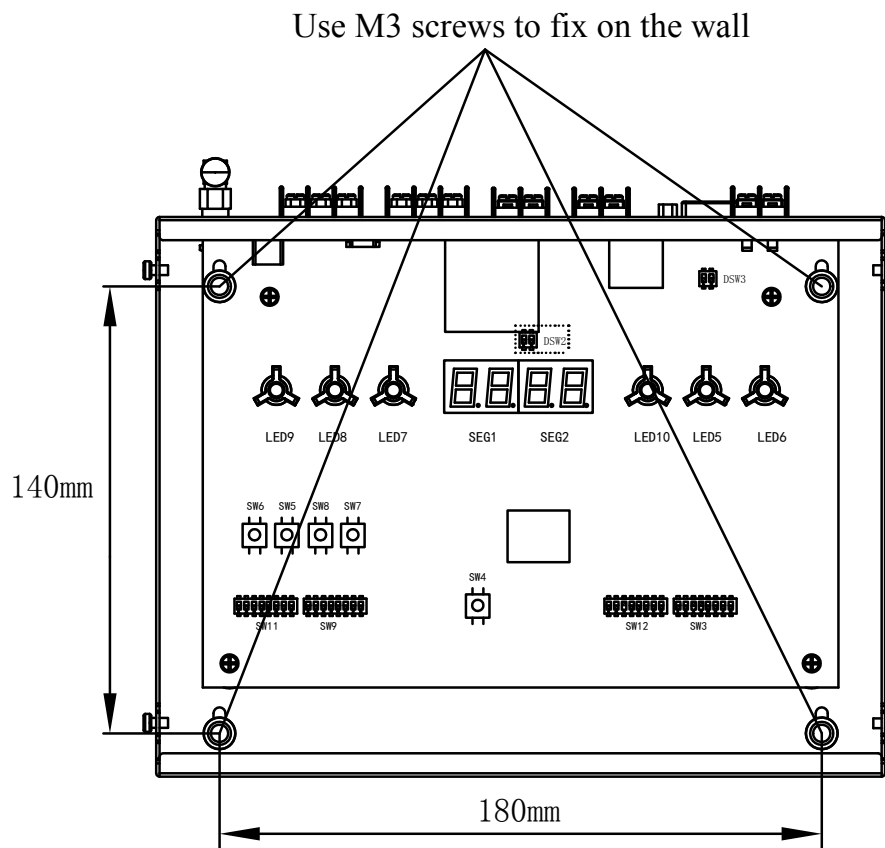

Figure 2.5 Position and size of the screw holes
(4) Use “M3 screw” to fix on the wall from the inner side of the frame, as shown in Figure 2.5. (“M3 screw” needs to be prepare on the spot)
(5) Install top cover.